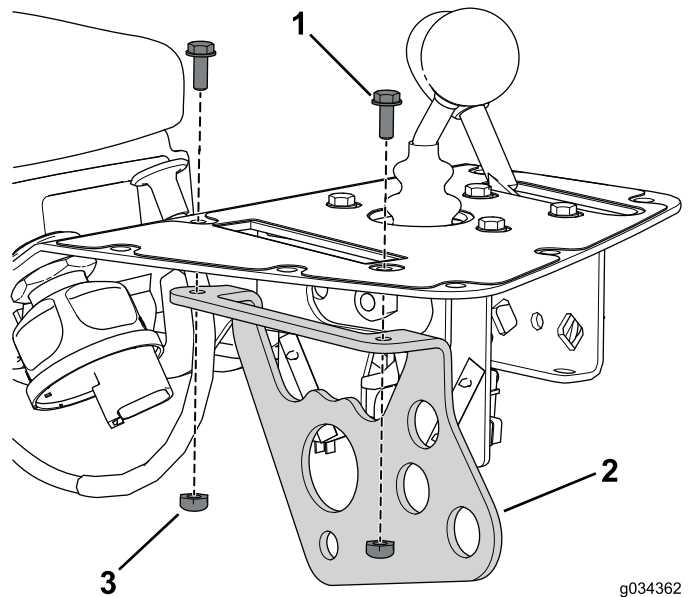

Figure 9
8. Remove and discard the 2 bolts and nuts that secure the function-control bracket to the console assembly (Figure 9).